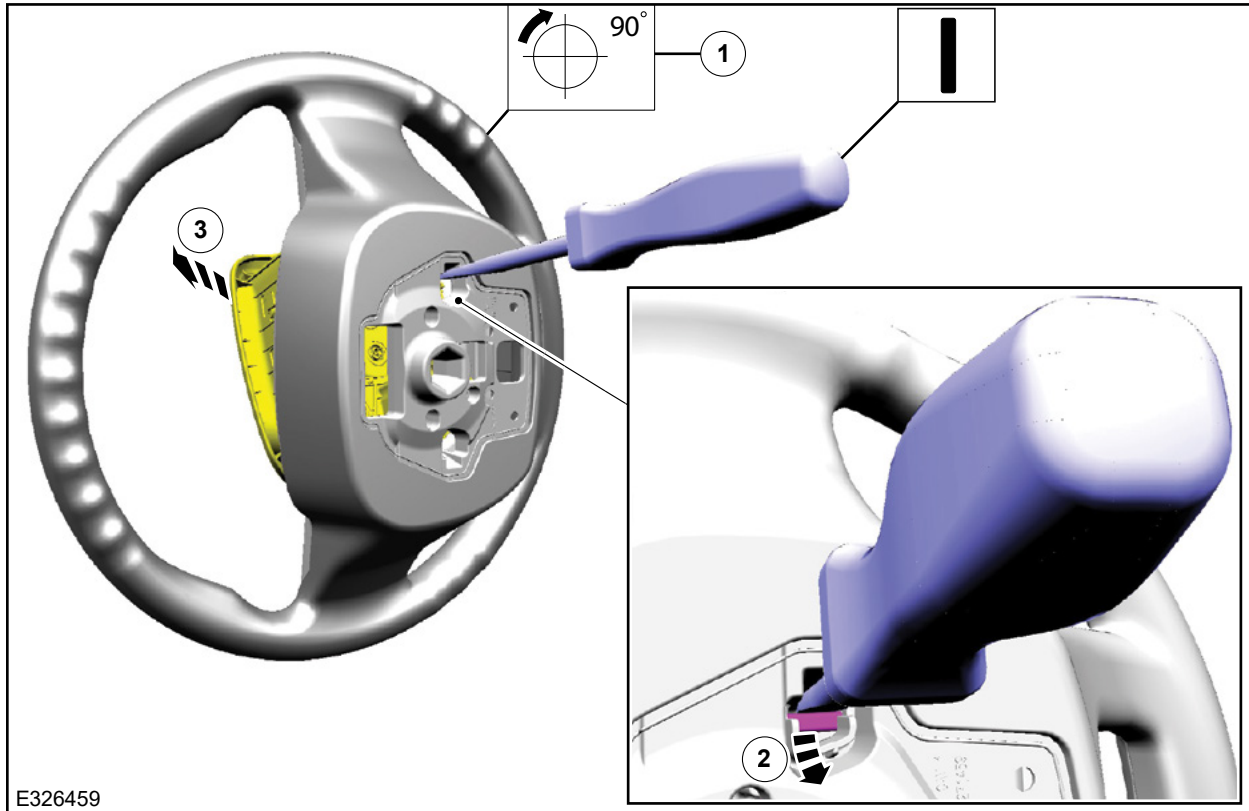

FIGURE 8
1. Turn the steering wheel clockwise through 90 degrees. See Figure 8.